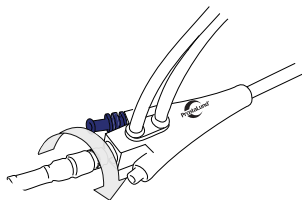

Figure 2. Securing the antenna in the CoreTherm® Catheter.
1. Insert the disinfected Microwave Antenna into the CoreTherm® Catheter and secure the antenna by turning the Luer-lock in the clockwise direction, see Fig 2. The same procedure applies for both antenna versions.